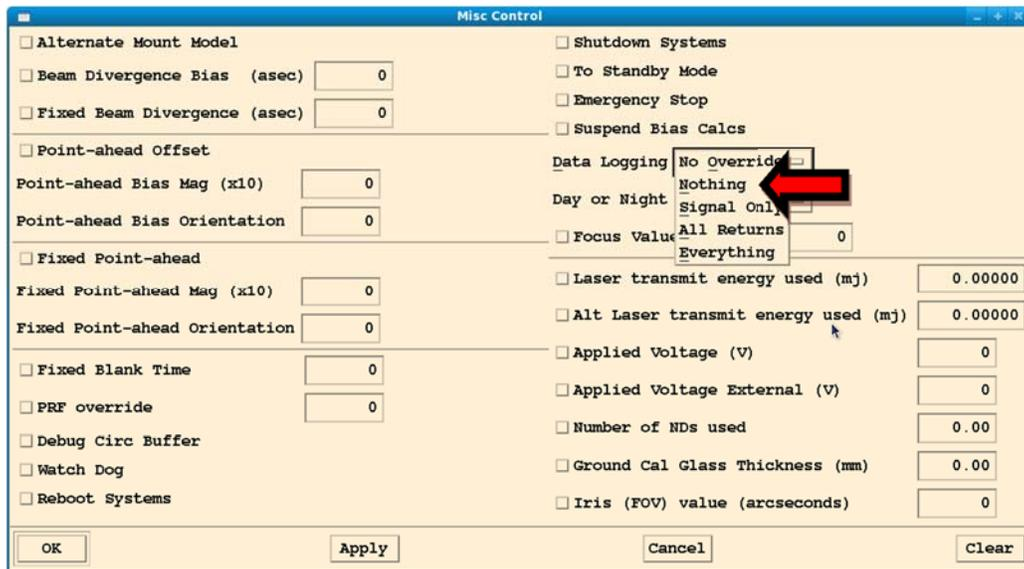

Figure 4-4: Misc Control menu
6. **Turn off Data Logging** – Open *Control* => *Misc*, go to *Data Logging* and set to *Nothing* (Figure 4-4).